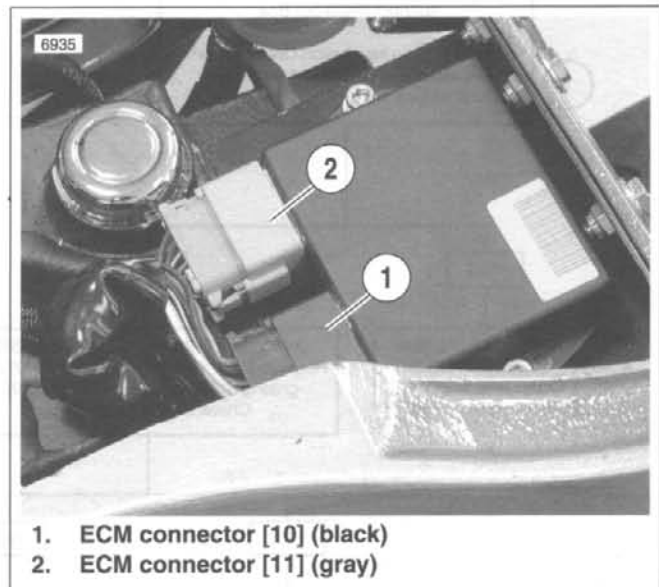

Figure 4-23. Electronic Control Module
1. See Figure 4-23. If the lamp goes off when the black ECM connector [10] is unplugged, the BK/Y wire is **not** shorted to ground.